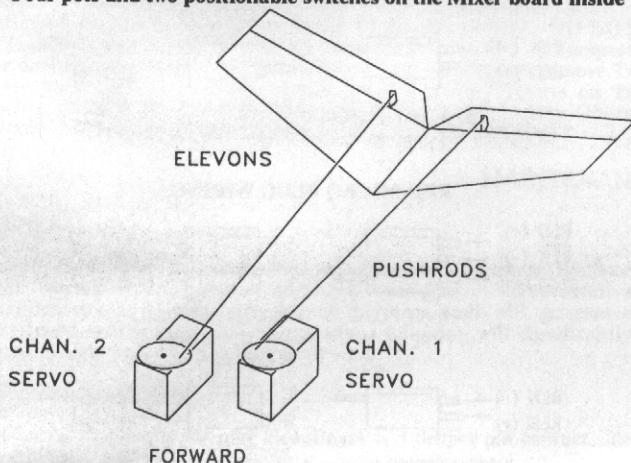

FIGURE 2. SERVO/ELEVON INSTALLATION
The standard Aileron-Elevator (AE) Mixer is most commonly used for "V" tail operation. The following chart shows 16 blocks which denote combinations of servo movements obtainable from various settings of channel reversing switches and rear Mixer switches 3 and 4 under the Mixer board. Note that when "V" tail controls are connected as shown in the Elevon drawing, Fig. 2, Block No. 13 of the chart will give proper "V" operation with switch positions shown.